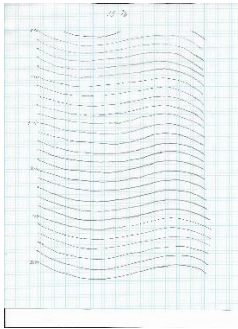

Fig 1
- 1) Create a set of contours that approximate a 15% grade with some additional side-to-side sloping (Fig 1).
Using the Fig 1 contours: